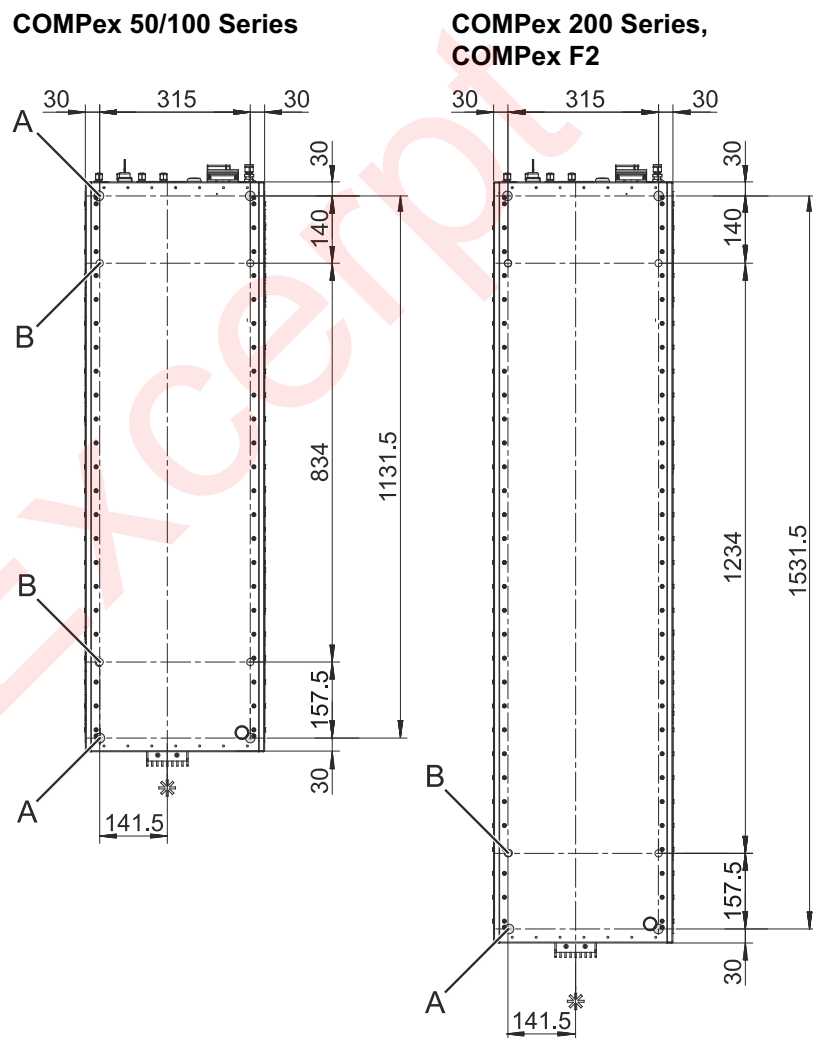

Figure 187: Position of threaded holes for anchoring device (top view)
Figure 187 indicates the positions of the threaded holes (A) in relation to the beam exit position, sides of the housing and laser device feet (B). For further information about the location and configuration of the feet refer to Section 8.3.3 on page 376.